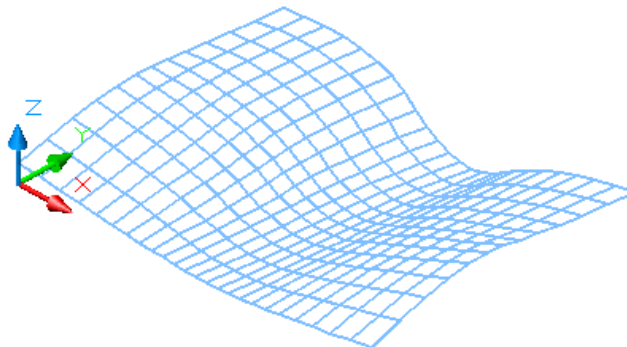

Figure Step 7
Step 7 Enter the commands shown below and your model will display as shown in the figure. (Figure Step 7)